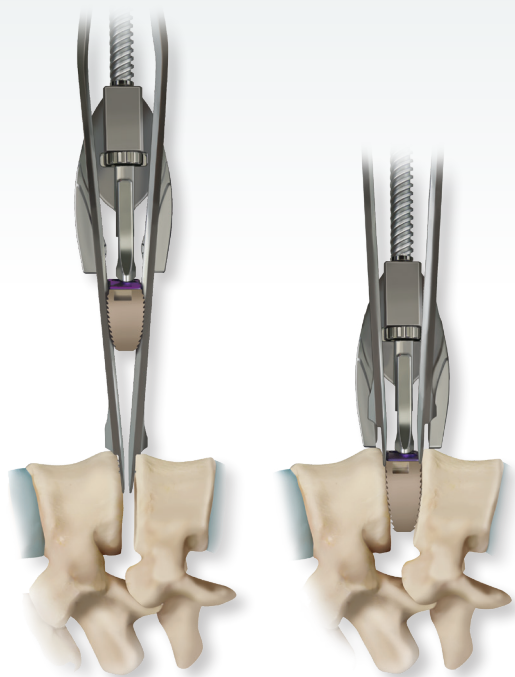

Figure 27a:
- Insert the tip of the distractor/inserter into the disc space, and insert the implant by rotating the T-handle clockwise while applying downward pressure on the handle (**Figure 27a**).